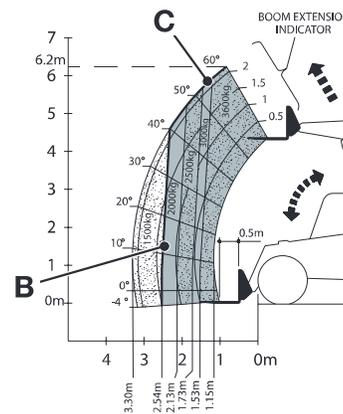

Fig 96. Example Only
- 3 When you know the weight of the load, look on the Load Chart and find the coloured segment with the next highest weight. → Fig 96. (□ 100).